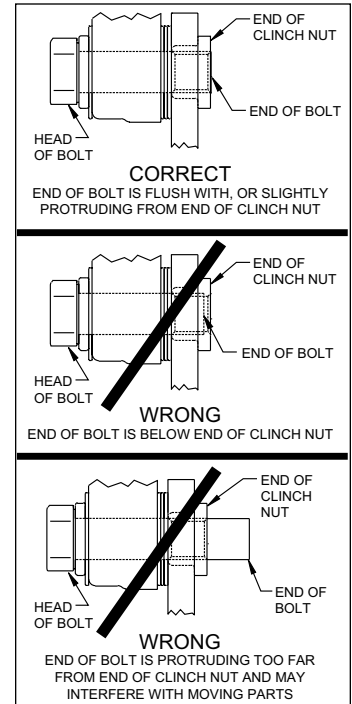

Figure 4. Clinch Nut Engagement Diagram
**CAUTION:** All mounting bolts must fully engage clinch nuts. Be sure to check that all bolts are either flush or protruding through flanged side of clinch nut after shimming, Figure 4.
- NOTE:** Please reference the caution statement at the beginning of the assembly instructions. Remount the service caliper (11) onto the caliper mounting bracket (2) using bolts (12) and washers (13), as shown in Figure 1. Initially place two .035" thick shims (14) on each bolt between the caliper and the bracket, Photo 7. Temporarily tighten the mounting bolts and view the rotor (10) through the top opening of the caliper. The rotor should be centered in the caliper, Photo 8. If not, adjust by adding or subtracting shims (14) between the bracket (2) and the caliper (11). Always use the same amount of shims on each of the two mounting bolts. **NOTE:** The end of each bolt must be flush with or slightly protruding from the head of the clinch nut, as shown in Figure 4. If necessary place spare shims (14) between washer (13) and caliper mounting ear to achieve the proper clinch nut engagement. Once the caliper alignment and clinch nut engagement are correct, remove the bolts one at a time, apply red *Loctite*® 271 to bolt threads, and torque to 40 ft-lb.
- Install the disc brake pads (15) into the service caliper (11), with the friction material facing the rotor (10), Photo 9. Secure the pads in place using pad clip retainer (16), Photo 10.